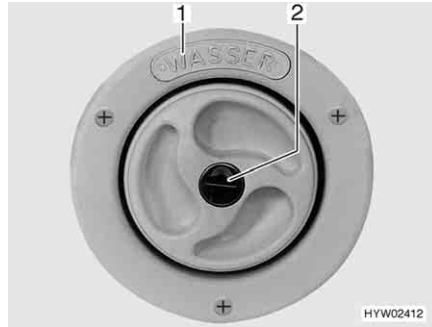
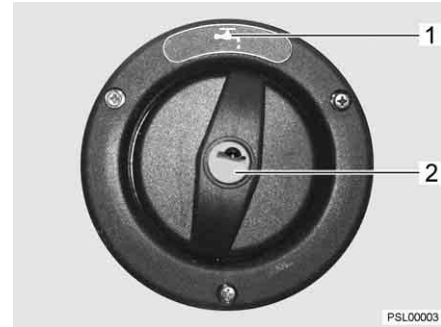

Fig. 49 Cap for the drinking water filler neck
Fig. 50 Cap for the drinking water filler neck (alternative)
- ▷ The drinking water filler neck is labelled by the word "WASSER" (water) (Fig. 49,1) or marked by the symbol "⛽" (Fig. 50,1).
- Insert the key in the locking cylinder (Fig. 49,2 or Fig. 50,2) and turn it in an anticlockwise direction.